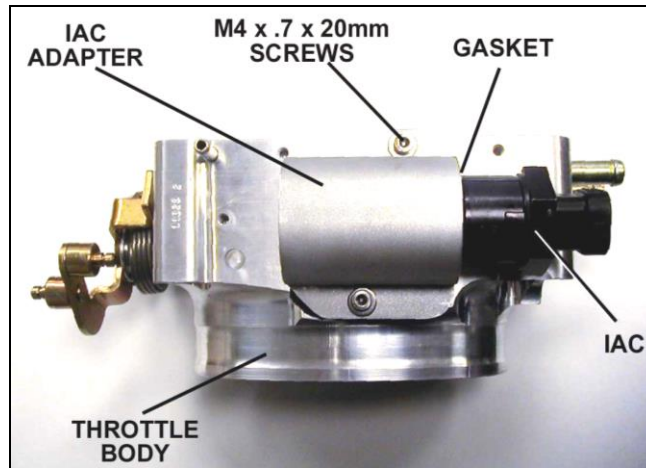

Figure 4
10. The Idle Air Control motor (IAC) will be installed on the throttle body next. Use the M4 x .7 x 20mm SS Allen head screws and washers provided. Use the provided gasket. Tighten the adapter securely. See Figure 4.